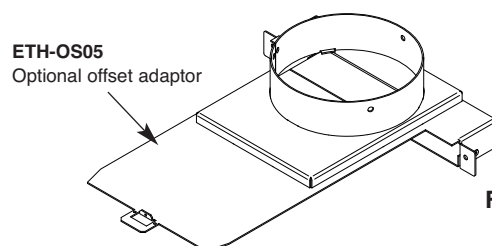

Fig. 19
11. For extra clearance to the rear of fireplace lintel or to set the liner or flue further back into the builder's opening, the optional Offset Adaptor (ETH-OS05) can be used. The rear outlet cover plate must always be removed when using this component (Fig. 19).
5. Slide the fire box into position and fix through the holes in the flange into the chimney breast framework using self drilling screws (Fig. 19).
6. Locate the twin wall flue pipe on to the flue adapter on the top of the fire box. Drill three holes with a 3mm bit around the flue tube and secure using the three self tapping screws provided (Fig. 19).